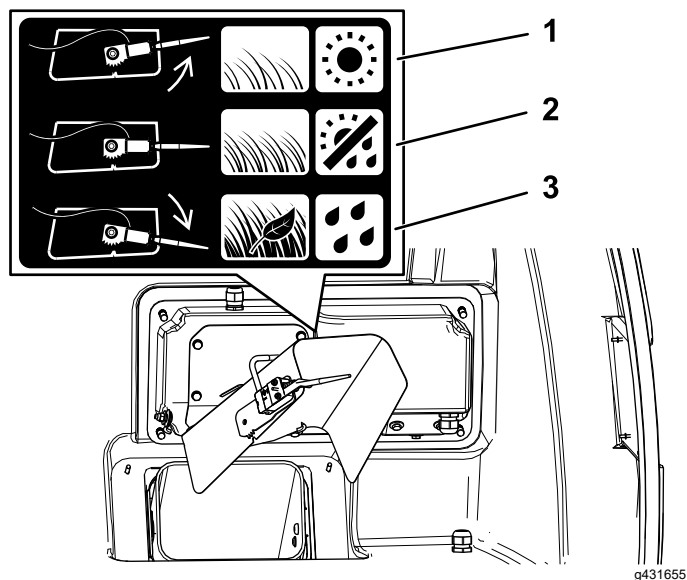

Figure 28
- For normal grass and weather conditions, rotate the sensor to the mid-point position (Figure 28).
- For wet, dense grass conditions, when picking up leaves, or if the hopper fills before the sensor activates, rotate the sensor downward (Figure 28).
- For dry, sparse grass conditions, or if the cutting unit disengages before the hopper fills, rotate the sensor upward (Figure 28).